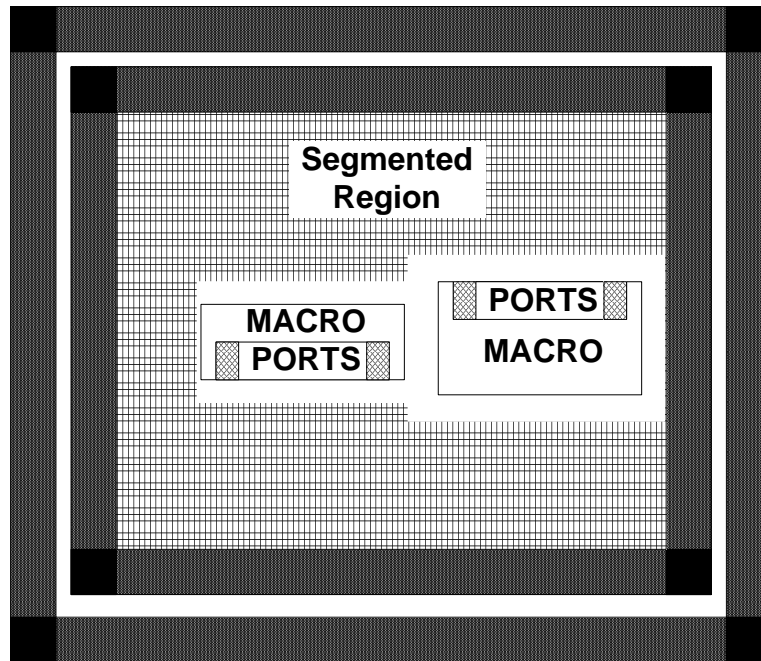

Figure 4(b) : Segmented floorplan.
- (b) Figure 4(b) shows a problematic segmented floorplan that may lead to long interconnections between the bottom and top of the die. Design the placement of this floorplan so that the wire length can be reduced.
- (c) Using Figure 4 as an example, describe the term 'trap pocket' and show methods in mitigating this problem. (30 marks)